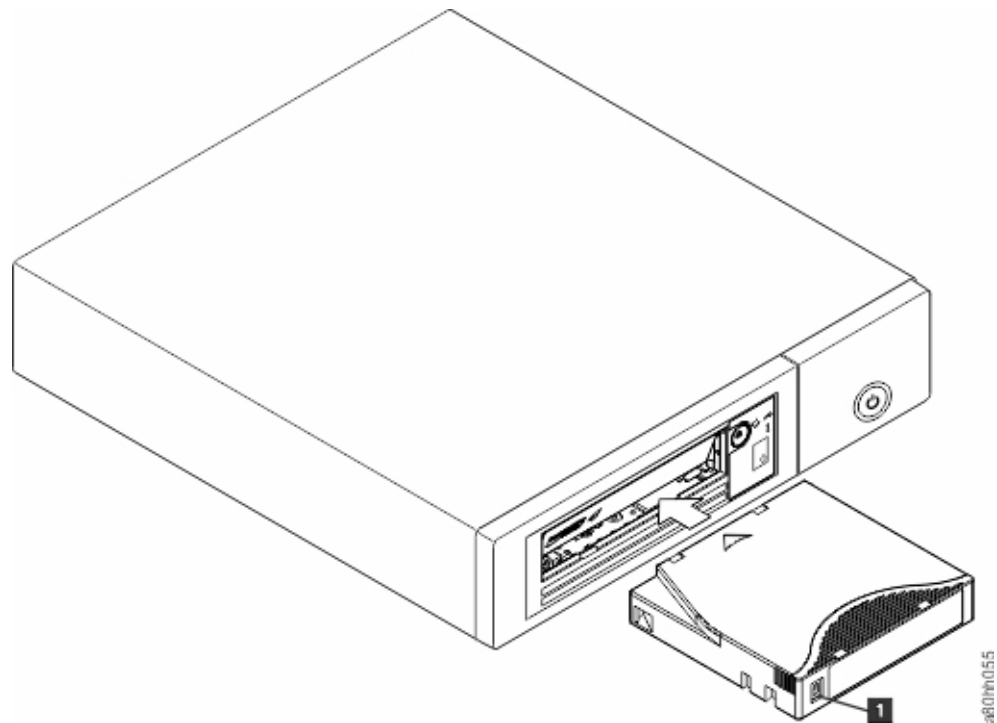

Figure 29. Inserting a cartridge into the drive
3. Grasp the cartridge so that the write-protect switch faces you (see **1** in Figure 29 on page 92).